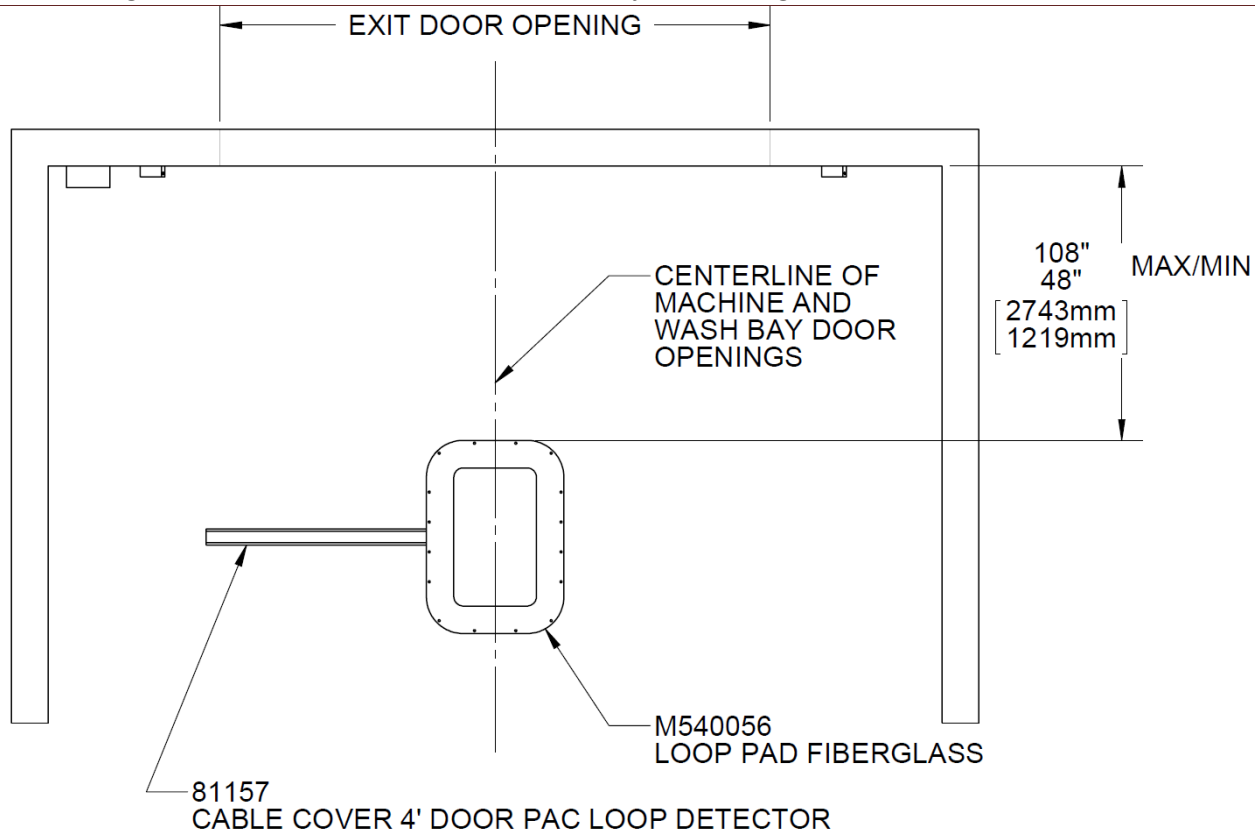

Figure 146 - Floor Loop Detector Location
- Measure and mark the location of the floor loop detector on the wash bay floor as shown in Figure 146. Locate the exit edge of the loop pad at least 48 in (1219mm) but not more than 108 in (2743mm) from the exit of the wash bay.